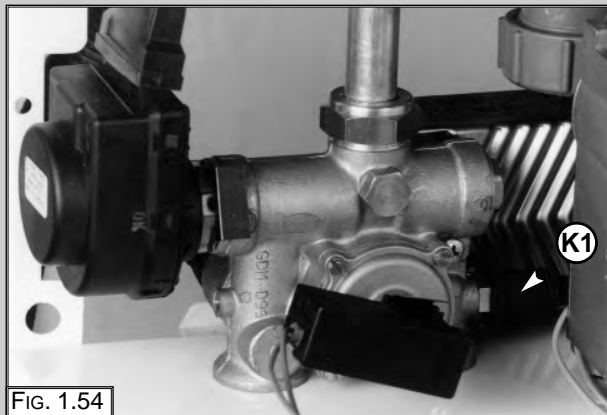

FIG. 1.54
1. Remove the electrical connector "K1" by pulling off (Fig. 1.54);